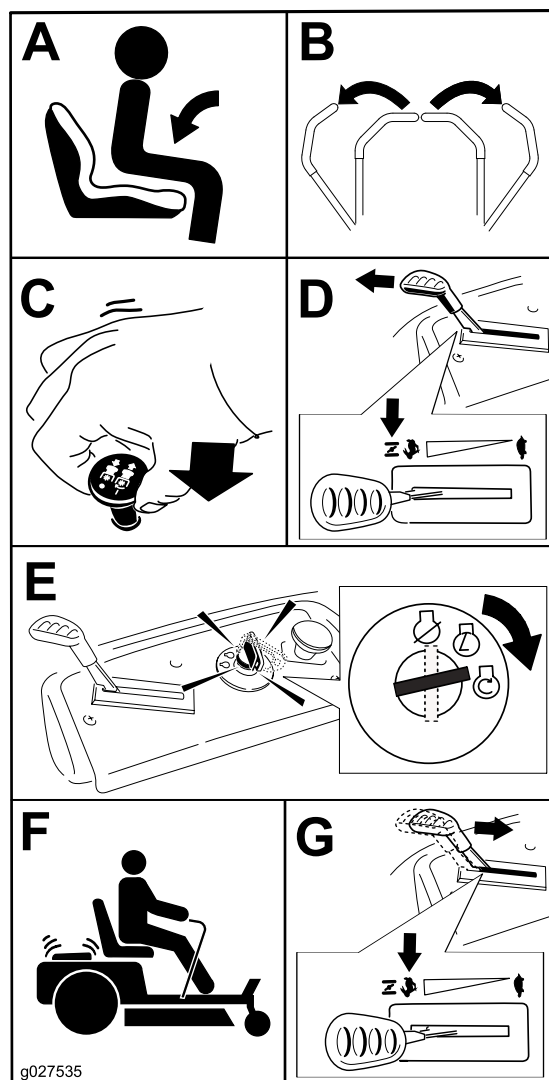

Figure 11
**Note:** It may be necessary to hold the lever against the stop, in the choke position, while trying to start the engine (Figure 11).